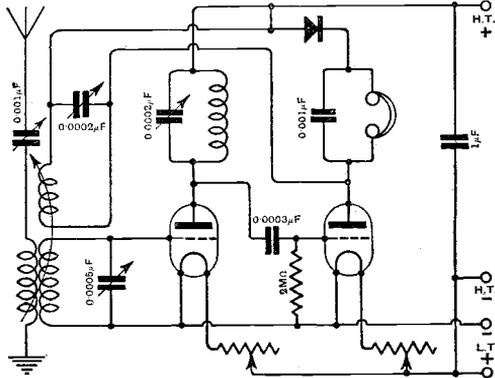

Fig. 2. "A.T." (Co. Cork). A receiver with two stages of H.F., tuned anode coupling, and crystal rectifier.
(1) The tuner described should be quite efficient, and would give a wavelength range of approximately 200 to 650 metres. (2) Of these two methods the "tuned anode" is probably the better from the point of view of efficiency. A circuit diagram is given in Fig. 2. (3) If reaction is employed, the range should be at least 300 miles with a good aerial.